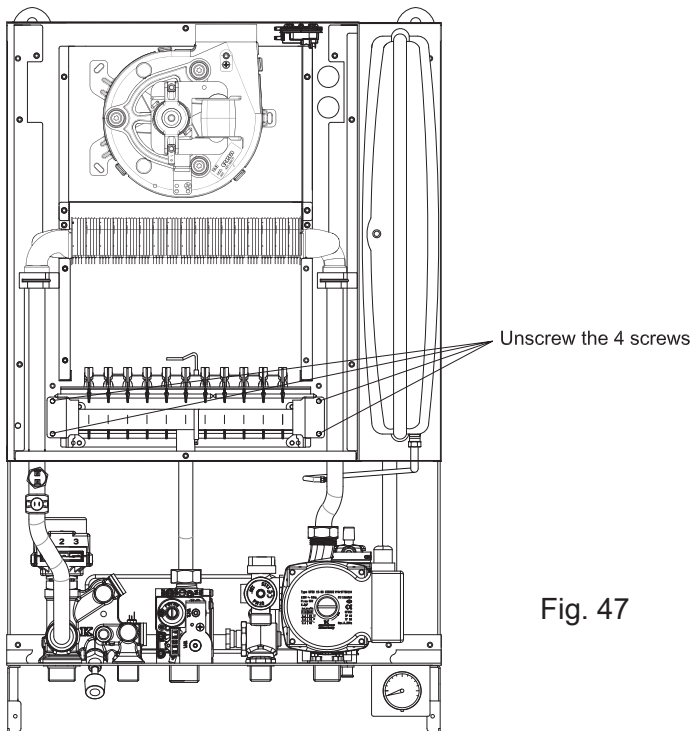

Fig. 47
8.13 TO REMOVE/REPLACE PUMP (Fig.47)
8.22 TO REMOVE/REPLACE THE BURNER (FIG. 47/48)